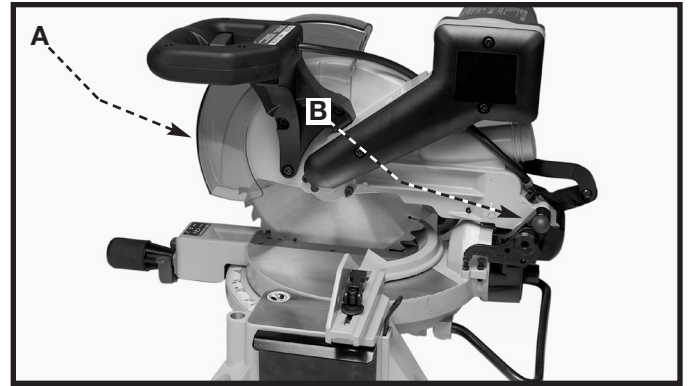

Fig. 48
When transporting the saw, lock the cuttinghead in the down position. Lower the cuttinghead (A) Fig. 48 and push in cuttinghead lock knob (B) until it engages with the hole in the cuttinghead.